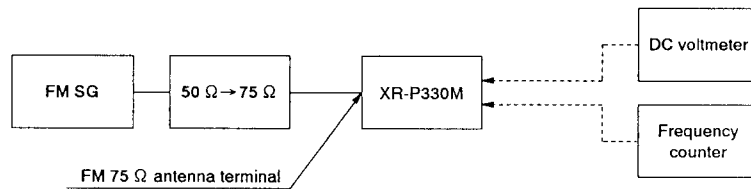

Fig. 7-1. FM Adjustment Connection Diagram
- Connect the wiring as shown in Fig. 7-1.